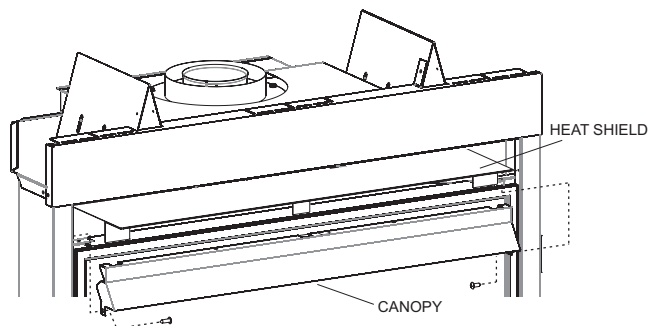

Figure 21
2. Place the canopy above the firebox as shown in **Figure 21**.
3. Secure the canopy with two #8-18 x 1/2 inch pan head screws provided in the hardware pack. See **Figure 21**.